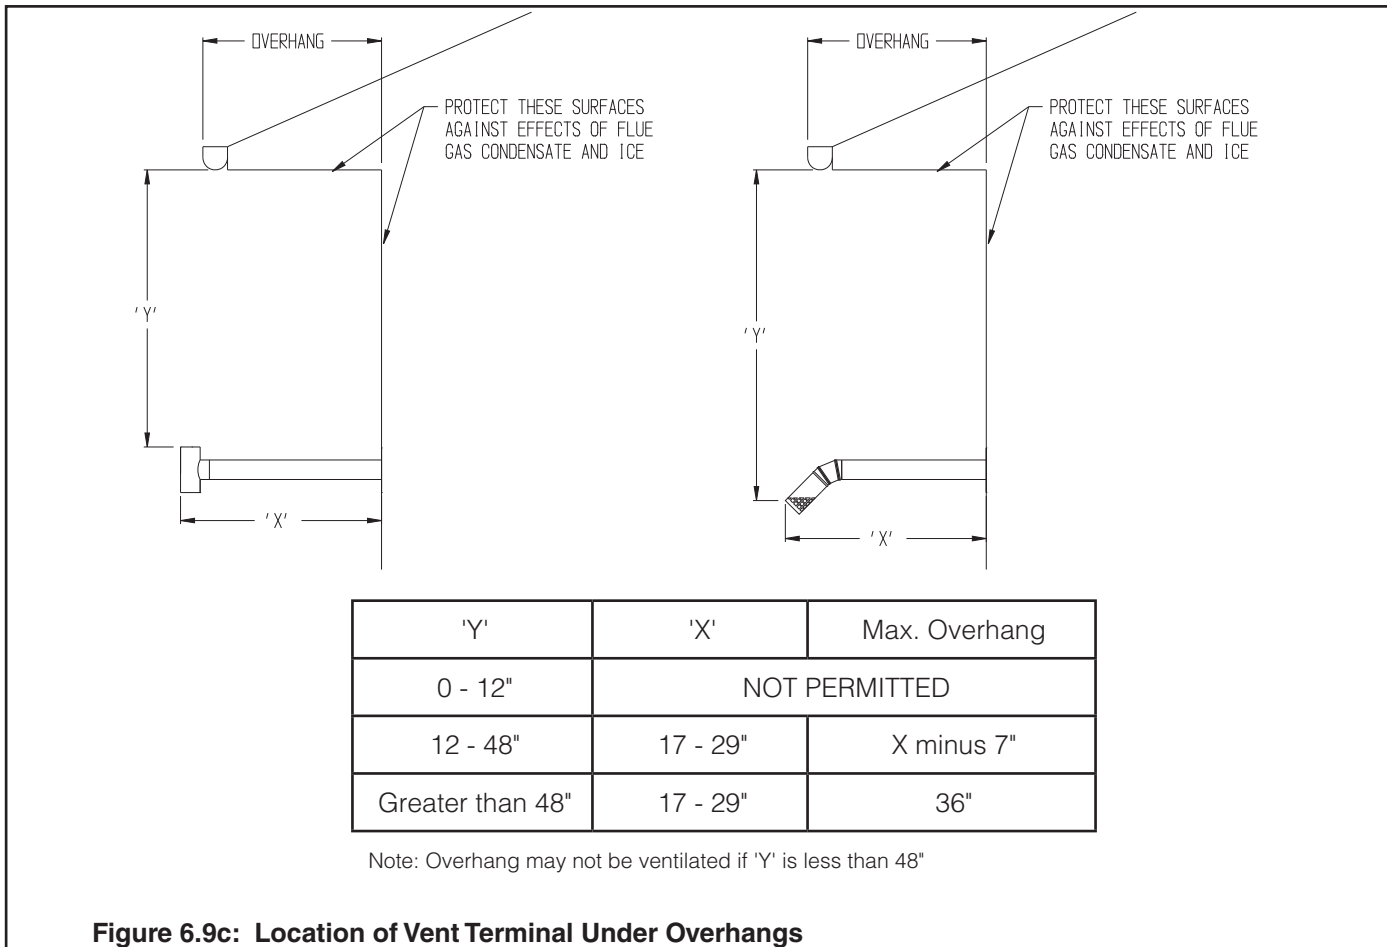

Figure 6.9c: Location of Vent Terminal Under Overhangs
- In general, the top of the vent terminal must be at least 4ft below eaves, soffits, and other overhangs. If the overhang is unventilated and if the terminal can extend beyond the overhang while meeting the stick-out requirements shown in Figure 6.3 or 6.4, this vertical clearance can be reduced to as little as 12". See Figure 6.9c. Note that flue gas condensate will form under such overhangs and construction in this area must be appropriately protected.
- Terminal must be at least 12" from an inside corner. Exception: if window and/or air inlet is within four (4) feet of an inside corner, then vent terminal must be at least six (6) feet from adjoining wall of inside corner.